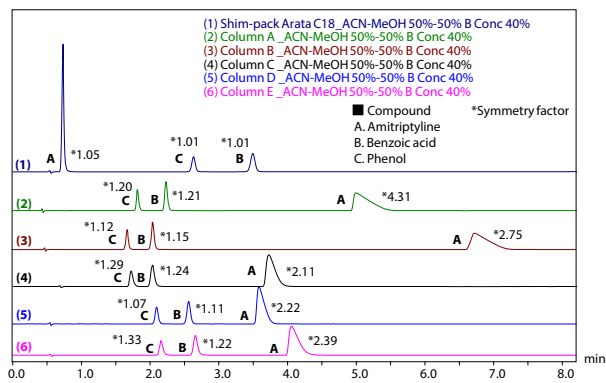
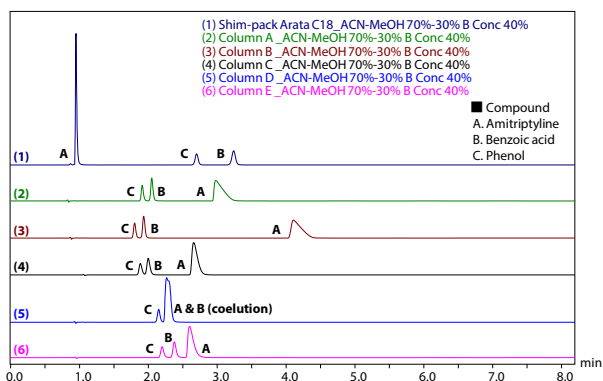

Fig. 2 Chromatograms Obtained with Each Column
Fig. 3 Chromatograms Obtained with Each Column
Fig. 2 shows the chromatograms obtained with the conditions of acetonitrile ratio in organic solvent as 50% and initial concentration of organic solvent as 40%. With Shim-pack Arata C18, amitriptyline (Peak A) has an excellent peak shape (symmetry factor: 1.05), but with the other columns, deterioration of peak symmetry (symmetry factors: 2.11 to 4.31) can be seen due to interaction with the silanol on the surface of packing material. Moreover, Shim-pack Arata C18 also shows superior peak symmetry to those of the other columns for both the benzoic acid (Peak B) and phenol (Peak C). This experiment also revealed that Shim-pack Arata C18 column shows different elution pattern between acidic and basic compounds, and thus has different selectivity in comparison with the other columns. Because Shim-pack Arata C18 has this unique selectivity, it is possible to maintain better resolution, even in cases where the ratio of acetonitrile in the organic solvent is increased to shorten the analysis time (Fig. 3).
Fig. 3 shows the chromatogram for the analyses with a 70% acetonitrile ratio in organic solvent and 40% initial concentration of organic solvent. When compared with Fig. 2, due to the increase of acetonitrile ratio, resolution of benzoic acid (Peak B) and phenol (Peak C) gets worse in chromatograms obtained with columns (2) to (6), but Shim-pack Arata C18 column keeps enough resolution. Thus, with Shim-pack Arata C18, an excellent peak shape of basic compound and improved separation due to its unique selectivity can be expected in comparison with the other C18 columns.